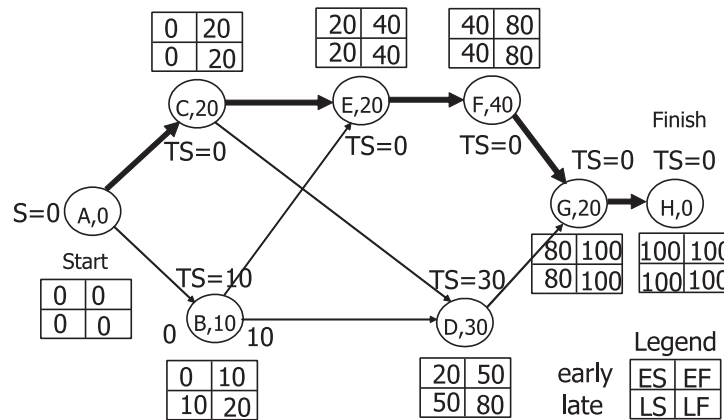

Fig. 9.8. Project CPM graph showing critical tasks with total slack $TS=0$
In Fig. 9.8 the simple project graph is shown with the total slack (TS) indicated for each task. We see that, indeed, all tasks on the CP have zero total slack, $TS=0$. Non-critical tasks (the lower branch) have $TS>0$.